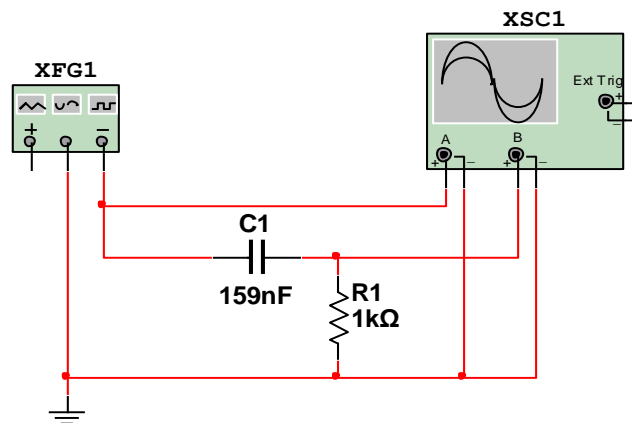

Fig. 1.4 Simulation circuit for RC – differentiator
2. Create the simple RC – differentiator circuit as in Fig. 1.4